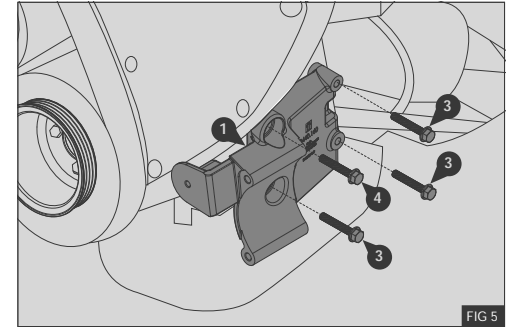

FIG 5
1. Fit the Compressor Mount Bracket ① to the engine using the three bolts ③ M8 x 45 and one bolt ④ M8 x 50 - Fig 5
2. Torque bolts ③ & ④ to 25Nm / 18Lb ft